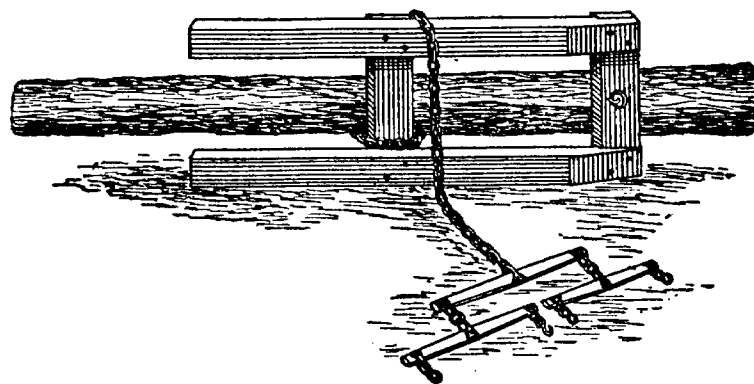

FIGURE 1—LOGGING BOB
**A** PLAN for getting up the year's supply of fuel is suggested as follows: Fell the trees on the ground with a small sapling under them, so a log chain can be passed beneath. Then a logging bob (Figure 1) is tipped up on its side near the end of the log; a chain is hooked to the bolster near the ground, passed under the log and over the top runner of the bob and the team hitched to the end of the chain. A quick pull of the team and the bob comes down on both runners, with the log on the top of the bolster.